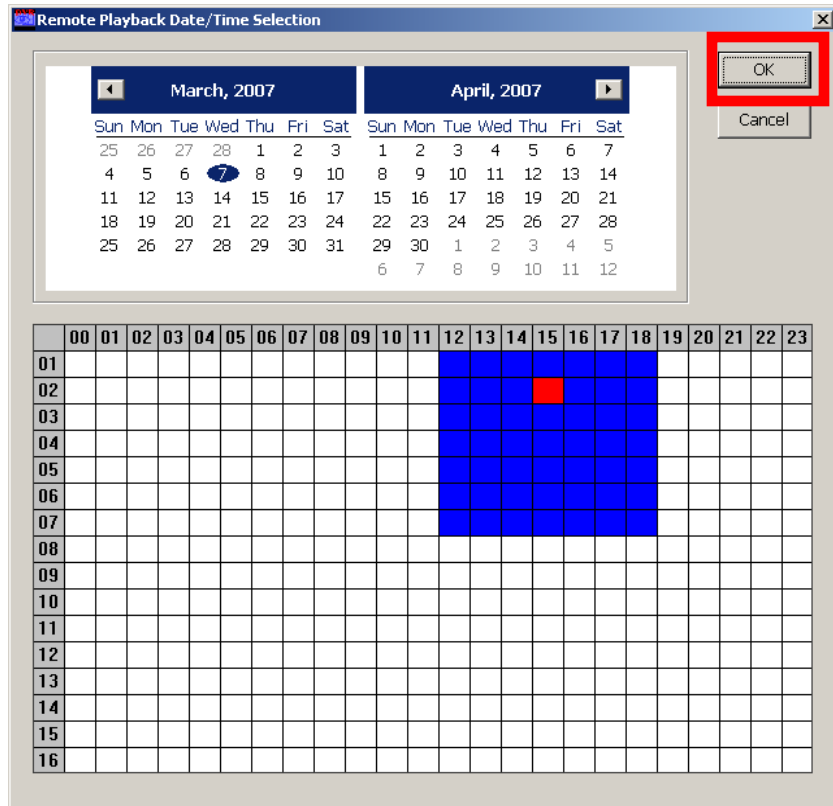

Figure 147. AAR - Recording Date and Time Selection
9. Select the Date and Time of the training you want to review (Figure 147).